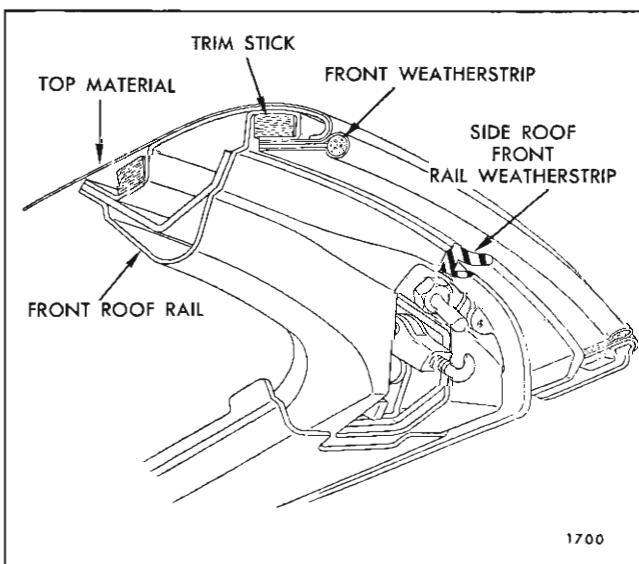

Fig. 2-I-1—Front Roof Rail Assembly
3. At the front of body, raise front roof rail, remove front weatherstrips; then, detach top material from front roof rail. (Fig. 2I1).
4. Loosen front end of each side roof rail front weatherstrip sufficiently to detach top material flaps which are nailed and cemented to rails (Fig. 2I2).